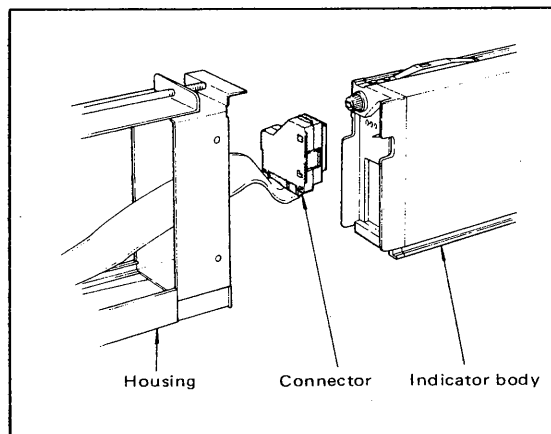

Figure 5-2-3. Detaching the Connector.
- ③ Detach the connector from the instrument module. The instrument module is now separated from the housing. (Figure 5-2-3.)